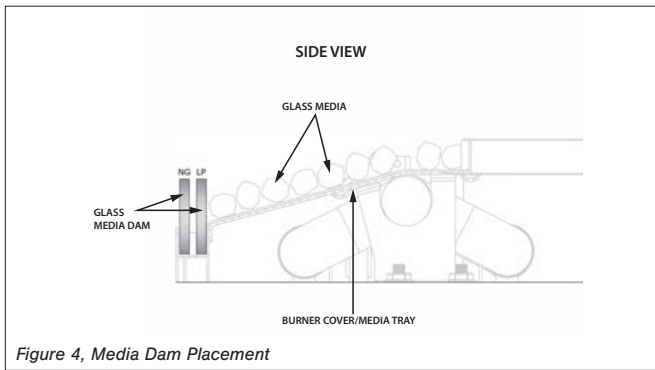

Figure 4, Media Dam Placement
- Step 2: Remove and discard the (3) burner venturi covers.
- Step 3: Reinstall media dam for natural gas placement. See Figure 4 on page 4.